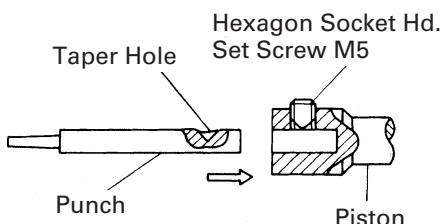

Fig. 9
- Insert the new punch while aligning the taper hole of the punch and the direction of the M5 hexagon socket set screw, then securely tighten the hexagon socket set screw (see Fig. 9).
(2) Die replacement